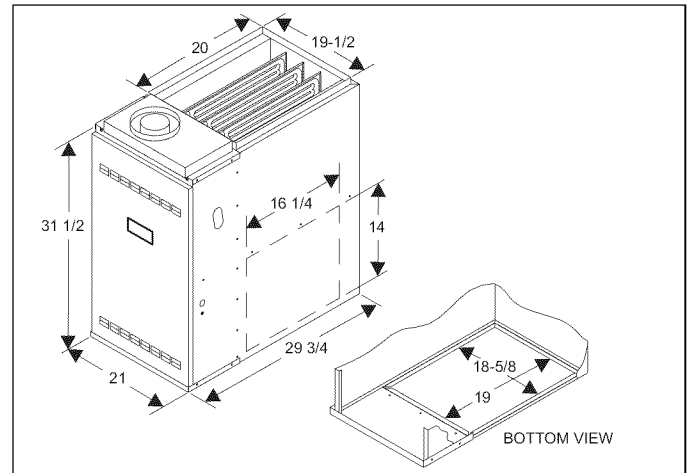

FIGURE 1: Dimensions
2. Be sure to seal the furnace to plenum connections to prevent air leakage. Refer to Figure 1 for unit and plenum dimensions.
Some accessories such as electronic air cleaners and pleated media may require a larger side opening. Follow the instructions supplied with that accessory for side opening requirements. **Do not** cut the opening larger than the dimensions shown in Figure 1.
2. Install the external filter box to the side of the cabinet and secure to the cabinet as specified in the instructions provided with the air filter kit. If a side return is to be used, cut out the side of the casing 14" high by 16 1/4" wide using the lances in the casing side as a guide. DO NOT CUT THE OPENING LARGER THAN 14" X 16 1/4". It is not permissible to cut out the back of the furnace. For bottom returns, place the external filter box between the return air plenum and the base of the furnace. The casing bottom is embossed to indicate where to bend the flanges. Refer to Figure 1 for the maximum return air opening sizes. Seal this connection to prevent leaks. Do not cut the opening larger than the dimensions shown in Figure 1.